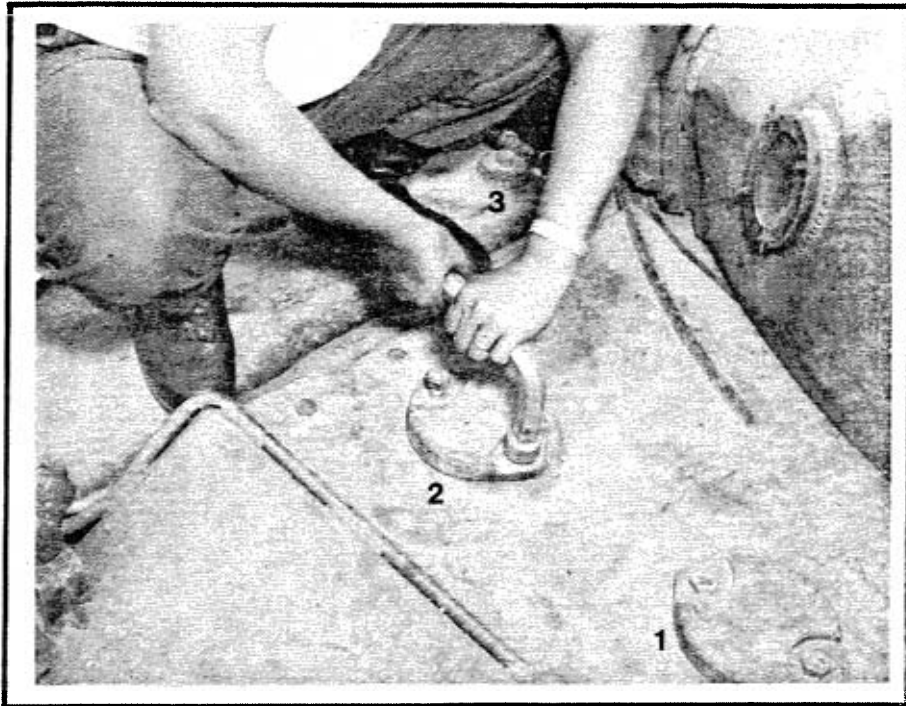
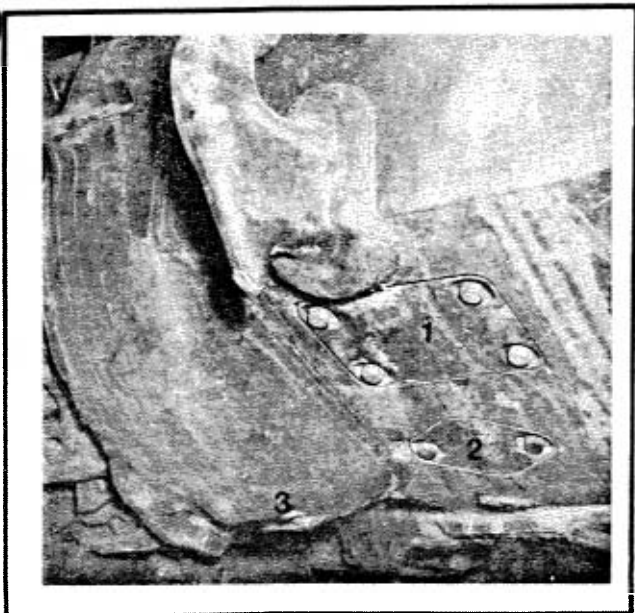

FIG. 4-1. FRONT FUEL TANK ACCESS PLATES
FIG. 4-5. HULL BOTTOM LEFT REAR
d. Points of Application. Vehicle lubricating fittings, oil filters, fuel filter, level devices, filler openings and drain plugs are shown in figures 4-1 thru 4-25 and
are referenced in Table 4-2, Vehicle Hull Lubrication Points and Interval Key. Vehicle hull top access plates are illustrated in figures 4-1 thru 4-4. Vehicle hull bottom access plates are illustrated in figure 4-5 thru 4-10. The lubrication points, in most cases, are marked RED for easy identification.